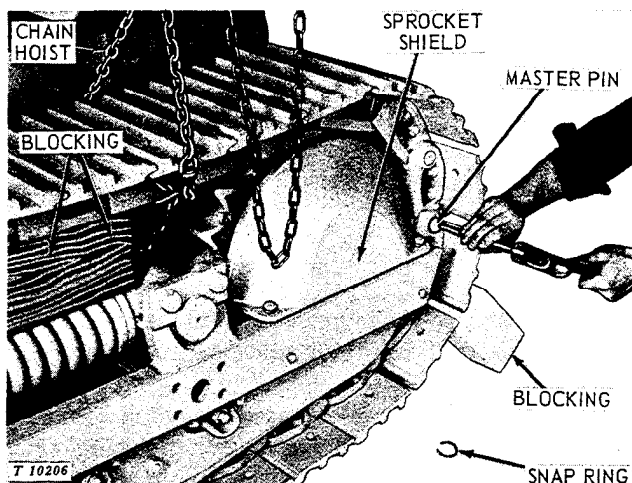

Fig. 20-15-1—Removing Track Master Pin to Separate Track
1. Remove cap screws attaching sprocket shield to roller frame and remove shield (Fig. 20-15-1).
2. Raise one side of tractor by placing floor jack securely under front cross member. Start engine and shift transmission into first gear. Pull back on steering lever that controls track not raised off floor (this disengages steering clutch and applies brake to that side). Engage engine clutch, permitting raised track to rotate until master pin has moved around drive sprocket and is approximately 6 inches from floor (Fig. 20-15-1).
5. Remove snap ring and drive master pin from track (Fig. 20-15-1). Using a chain hoist, pull track up and toward front of tractor until clear of drive sprocket.
Using a chain hoist, pull track from front of tractor up over idler wheel and sprocket. Place a block of wood between upper portion of track and carrier assembly to take out sag (Fig. 20-15-1).
Line up master pin hole and drive master pin in place, making certain T-head on master pin fits into locking slot on master link (Fig. 20-15-1). Install snap ring.